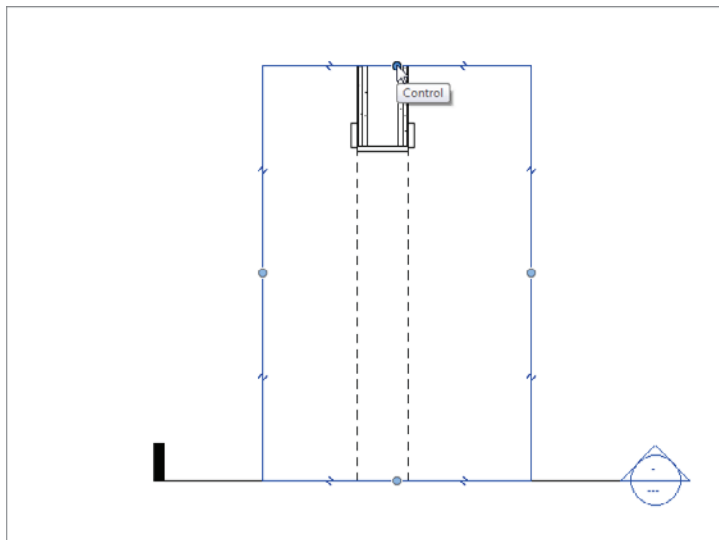

FIGURE 3.57 Stretching the crop region to view the detail
1. Select the window surrounding the detail, as shown in Figure 3.57.
2. You will now see four blue dot grips at the midpoint of each line. Pick the top grips, and stretch the top region up until you can see the opening jamb, as shown in Figure 3.57.